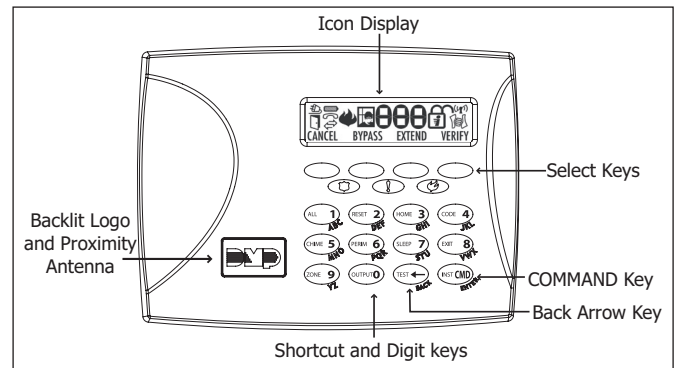

Figure 4: Icon Keypad
**Note: On Security Command, Thinline and Aqualite keypads**, when instructed to press the first Select key, press the far left Select key; the second Select key is the second from the left; third Select key is second from the right; and the fourth Select key is the far right key. See Figures 4 and 5.